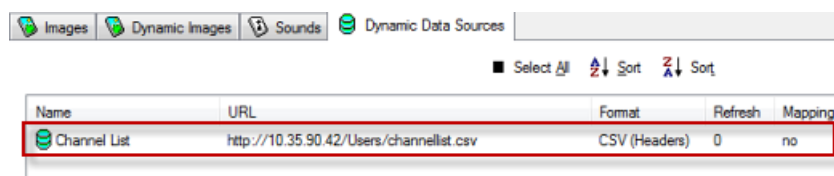

FIG. 44 Resource Manager - Dynamic Data Sources tab indicating an example Data Source File
11. Click **OK** to save changes and close this dialog. The new data source is indicated in the *Dynamic Data Sources* tab (FIG. 44):